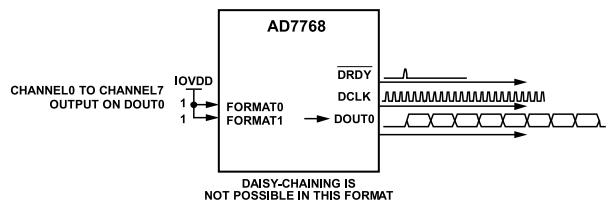

Figure 98. AD7768 FORMATx = 10 or 11, or AD7768-4 FORMAT0 = 1, One Data Output Pin
**Table 33, Figure 95, Figure 96, and Figure 98** show the formatting configuration for the digital output pins on the AD7768.